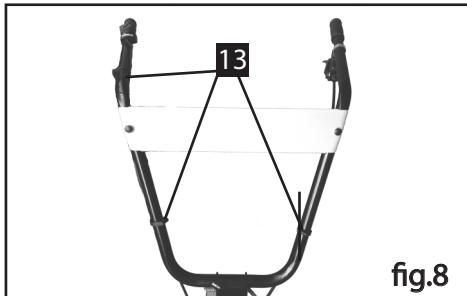

fig.8
7. Install the Cable bandage(See Fig.8)